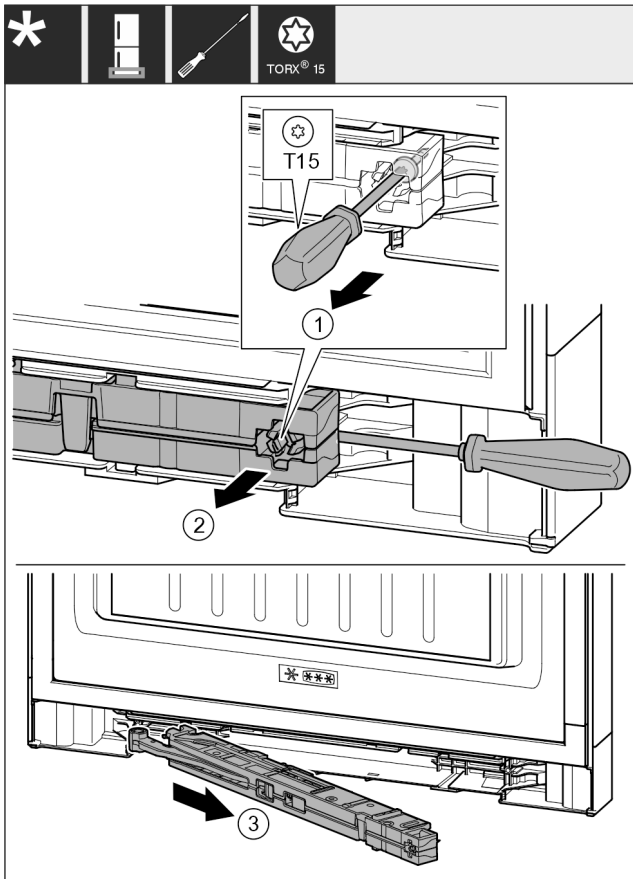

Fig. 17
- ▶ Undo the soft stop mechanism screw with a T15 screwdriver approx. 14 mm. Fig. 17 (1)
- ▶ Insert the screwdriver on the handle side behind the soft stop unit. Turn the unit forward. Fig. 17 (2)
- ▶ Pull out the unit. Fig. 17 (3)